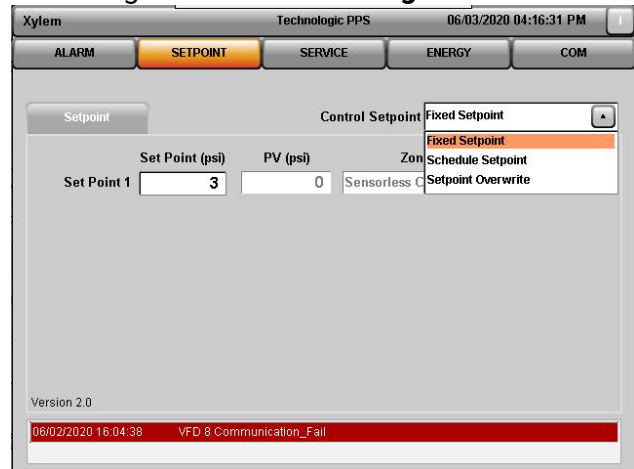

Figure 5.6.1-Fixed Setpoint-sensorless
- Fixed Setpoint Screen for Sensorless Configuration as shown in **Figure 5.6.1**.